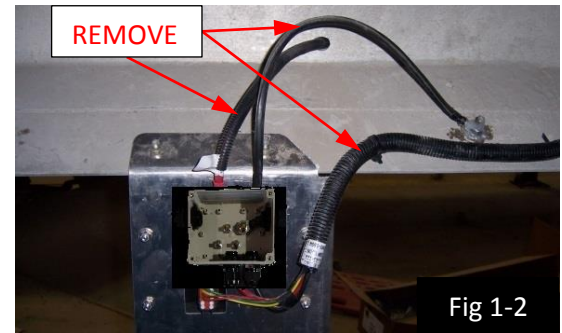

Fig 1-2
- Remove the existing wire harness from the rear of the control box including the power and ground wires with a 9/16" socket. (See Fig 1-2)